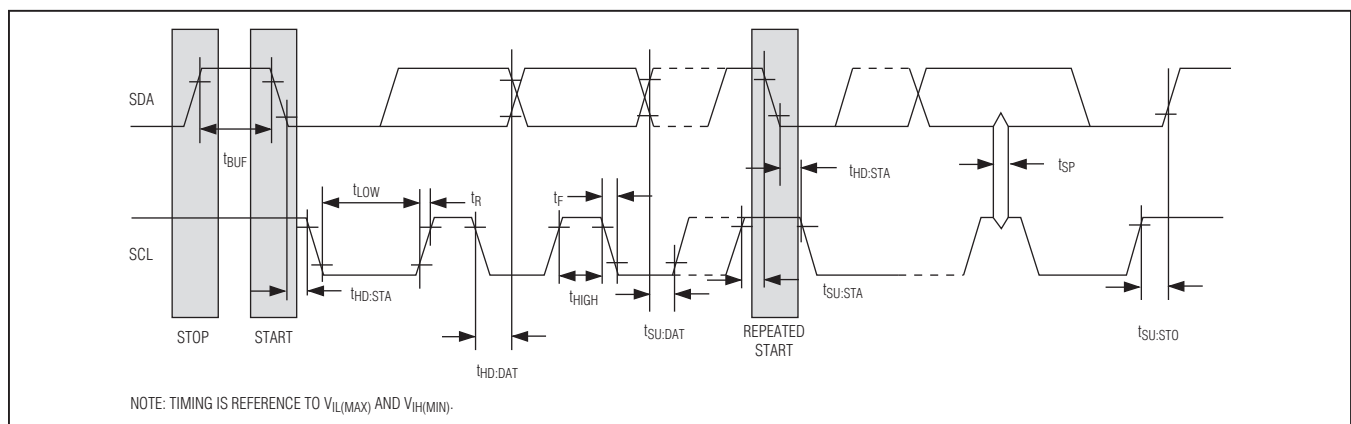

Figure 9. I2C Timing Diagram
**START Condition:** A START condition is generated by the master to initiate a new data transfer with a slave. Transitioning SDA from high to low while SCL remains high generates a START condition. See Figure 9 for applicable timing.
**STOP Condition:** A STOP condition is generated by the master to end a data transfer with a slave. Transitioning SDA from low to high while SCL remains high generates a stop condition. See Figure 9 for applicable timing.
**Repeated START Condition:** The master can use a repeated START condition at the end of one data transfer to indicate that it will immediately initiate a new data transfer following the current one. Repeated STARTs are commonly used during read operations to identify a specific memory address to begin a data transfer. A repeated START condition is issued identically to a normal START condition. See Figure 9 for applicable timing.
**Bit Write:** Transitions of SDA must occur during the low state of SCL. The data on SDA must remain valid and unchanged during the entire high pulse of SCL plus the setup and hold time requirements (see Figure 9). Data is shifted into the device during the rising edge of the SCL.
**Bit Read:** At the end of a write operation, the master must release the SDA bus line for the proper amount of setup time (see Figure 9) before the next rising edge of SCL during a bit read. The device shifts out each bit of data on SDA at the falling edge of the previous SCL pulse and the data bit is valid at the rising edge of the current SCL pulse. Remember that the master generates all SCL clock pulses including when it is reading bits from the slave.
**Acknowledgement (ACK and NACK):** An acknowledgement (ACK) or not acknowledge (NACK) is always the 9th bit transmitted during a byte transfer. The device receiving data (the master during a read or the slave during a write operation) performs an ACK by transmitting a zero during the 9th bit. A device performs a NACK by transmitting a one during the 9th bit. Timing (Figure 9) for the ACK and NACK is identical to all other bit writes. An ACK is the acknowledgment that the device is properly receiving data. A NACK is used to terminate a read sequence or as an indication that the device is not receiving data.